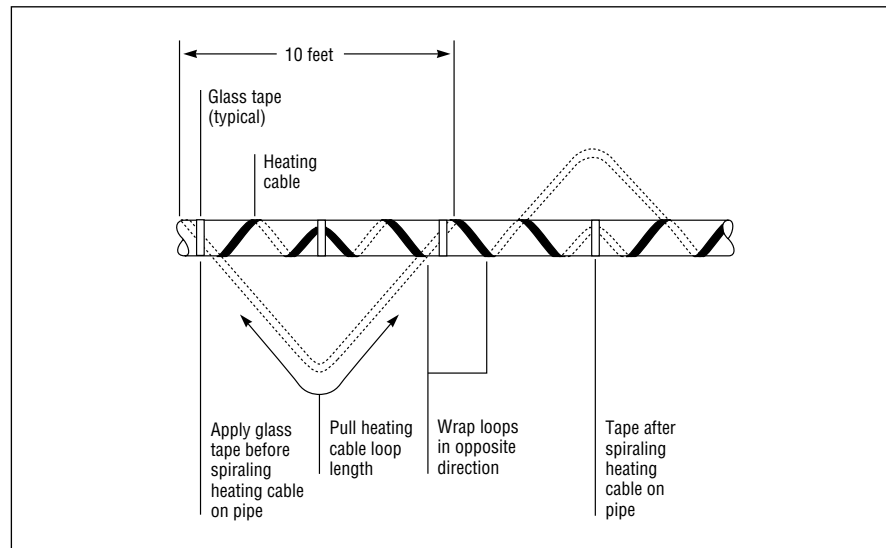

Figure 1. Spiraled heat tracing
- When the design calls for spiraling, begin by suspending a loop every 10 feet as shown in Figure 1. To determine the loop length, obtain the spiral factor from Table 1 or 2 and multiply by 10. For example, if a spiral factor of 1.3 is called for, leave a 13-foot loop of